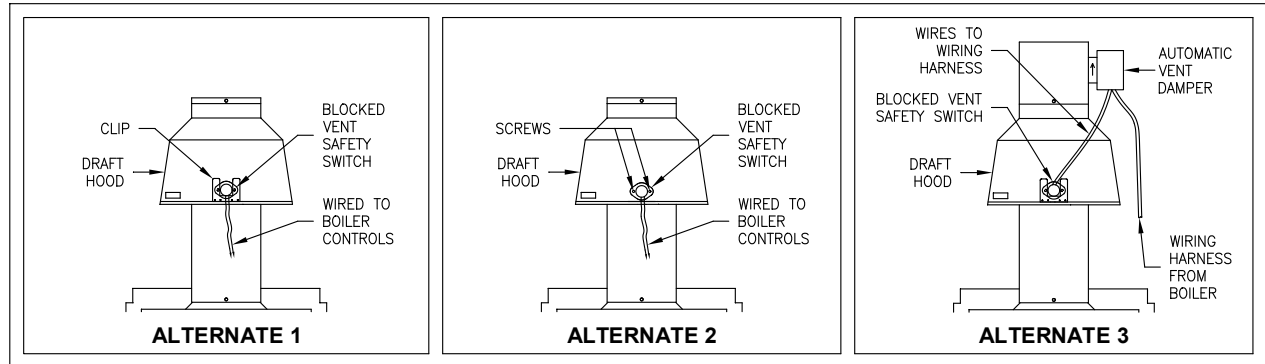

FIGURE 2 - MOUNTING LOCATION OF BLOCKED VENT SAFETY SWITCH AND WIRE ROUTING
- The automatic vent damper should be installed at the top of the factory supplied draft hood (Figure 2 - Alternate 3). No modifications to the automatic vent damper are permitted.
All boilers with an input of 300,000 Btu/h and under are equipped with blocked vent and flame roll out safety switches. The blocked vent safety switch is installed in the clip provided on the draft hood (Figure 2 - Alternate 1) or is mounted with screws (Figure 2 - Alternate 2). The blocked vent safety switch is pre-wired at the factory either directly to the boiler controls (Figure 2 - Alternate 1 & 2), or through a wiring harness for a boiler with an automatic vent damper (Figure 2- Alternate 3). If the vent becomes blocked a boiler shut down will occur. Ensure that the vent is free of obstructions.